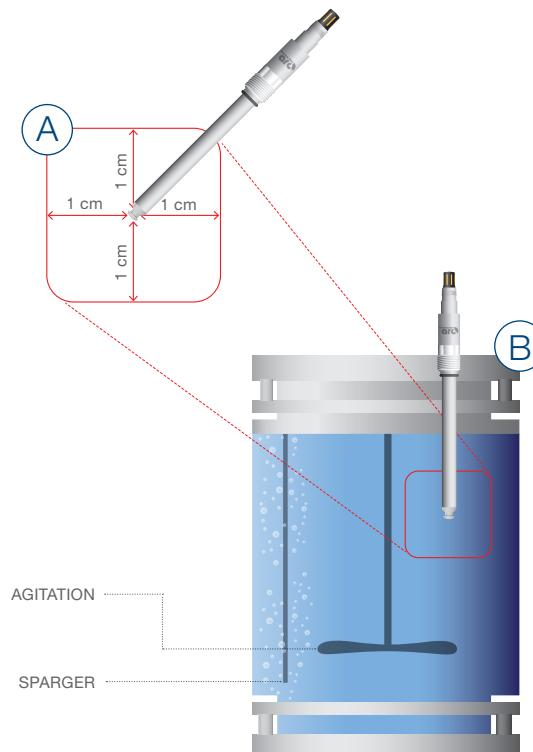

Figure 13: Mounting restrictions, A: Space requirements / B: Reactor mounting restrictions
- 1) Select the most appropriate port for mounting the sensor (figure 13). Choose a position where gas bubbles may not interfere with the measurement, for example in ports opposite to the sparger or at a distance to get minimal turbulence. Gas bubbles interfere with the measurement and may cause reading errors. The electrodes of the Incyte sensor have to be kept at least 1 cm away from any solid parts, especially metallic ones. The electric field may be subject to interference and the measurement may be affected.